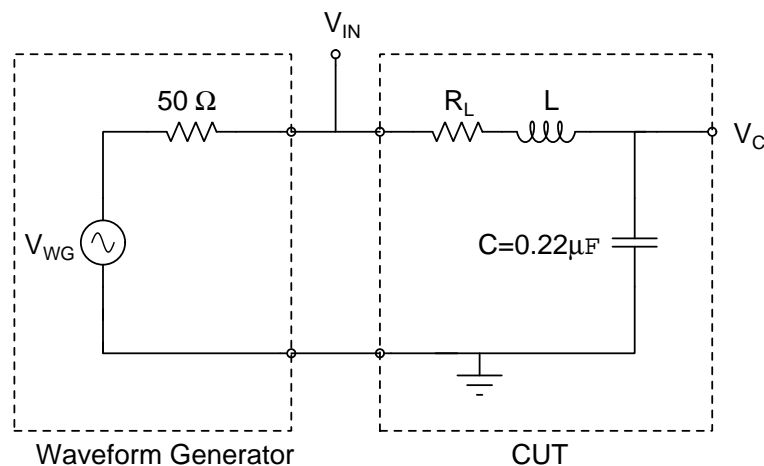

Figure 1: RLC circuit analyzed and measured in Lab #6.
3. Consider the circuit in **Figure 1** with  $R_L = 0\ \Omega$  and  $L = 1\ \text{mH}$ .
1. Build the RLC circuit shown in **Figure 1**.